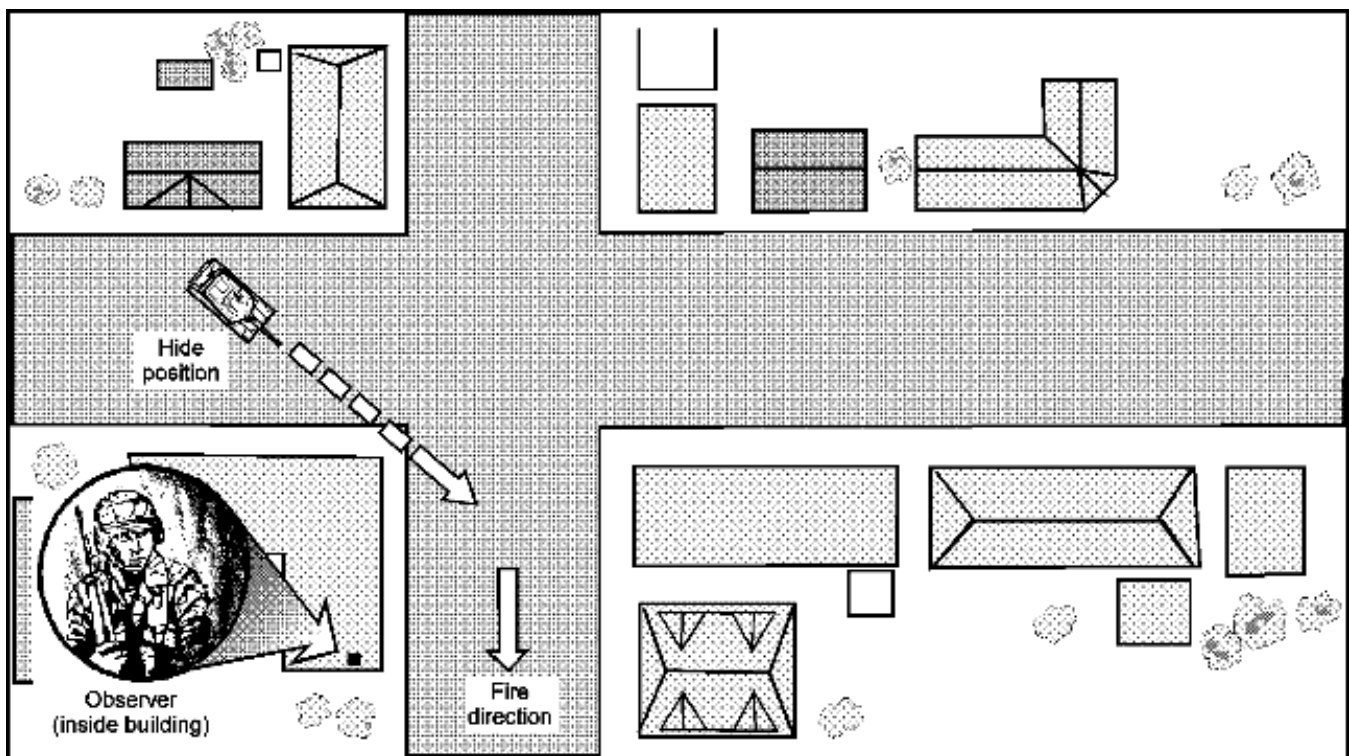

Figure I-6. Example vehicle hide position in a MOUT environment.
- Before moving into position to engage the enemy, a tank or BFV can occupy a hide position for cover and concealment. Hide positions for armored vehicles may be located inside buildings or underground garages, adjacent to buildings (using the buildings to mask enemy observation), or in culverts. Refer to Figure I-6 for an example of a tank using a hide position in a MOUT environment.
- Since the crew will not be able to see the advancing enemy from the hide position, an observer from the vehicle or a nearby infantry unit must be concealed in an adjacent building to alert the crew (see Figure I-6). When the observer acquires a target, he signals the armored vehicle to move to the firing position and, at the proper time, to fire.